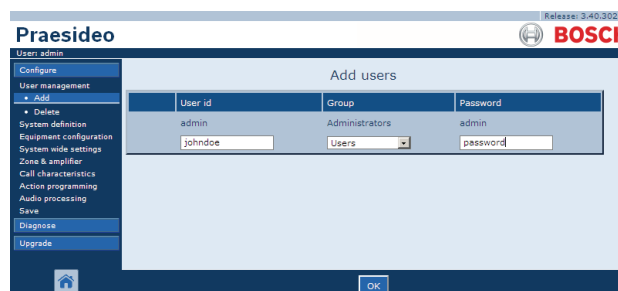

figure 42.3: Add user, step 2 - 4
- 2 Enter the user name for the new user in the *User id* field. It can contain up to 16 characters. For example, *johndoe* (see figure 42.3).
- 4 Enter the password for the new user in the *Password* field. It can contain up to 16 characters. For example, *password* (see figure 42.3).